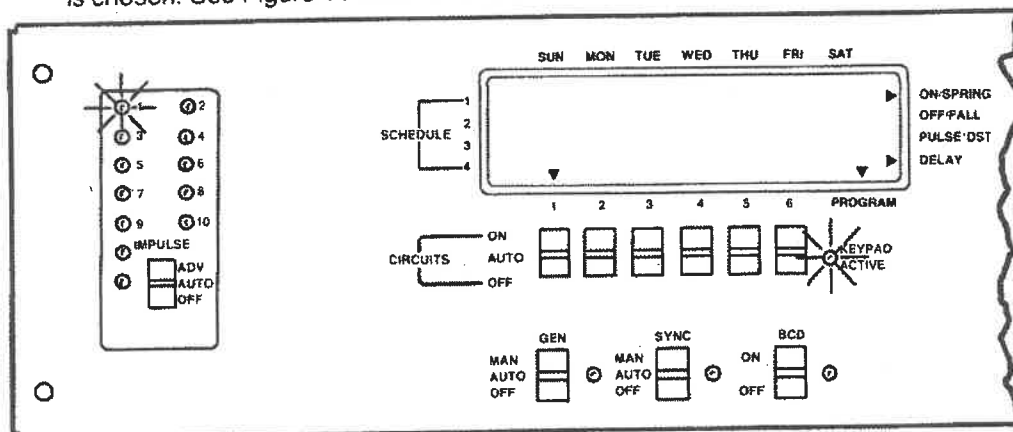

Figure 11
- LED #1 representing relay address #1 is blinking whether an OFF or ON event is chosen. See Figure 11 which shows an ON event selection.